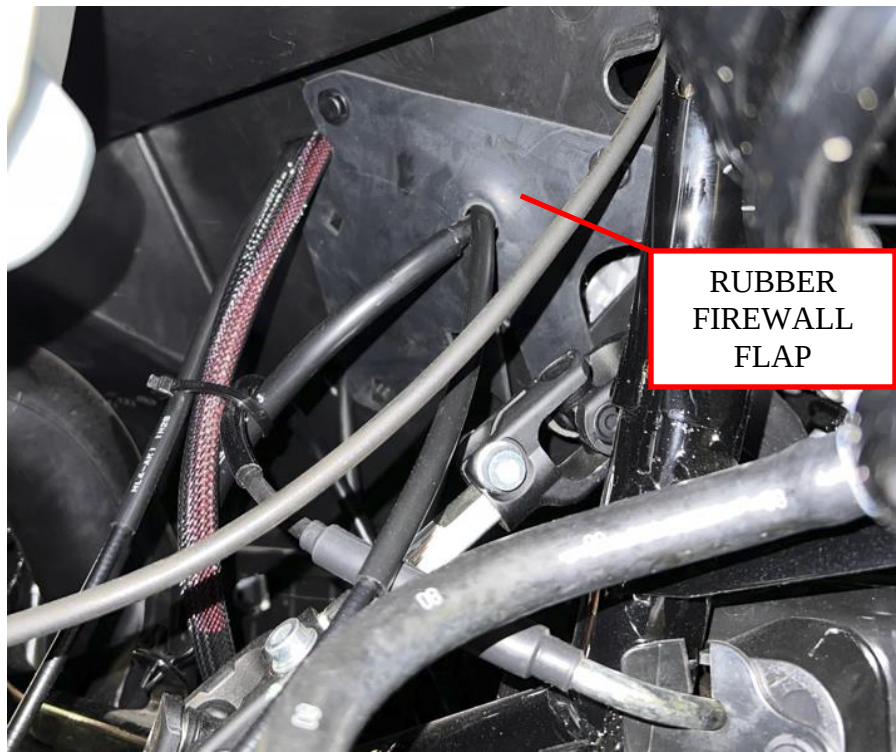

Figure 13: Feed the harness up to the under hood area.
13. Reach through the wheel well and feed the harness through the rubber firewall flap up to the under hood battery compartment. See Figure 13.